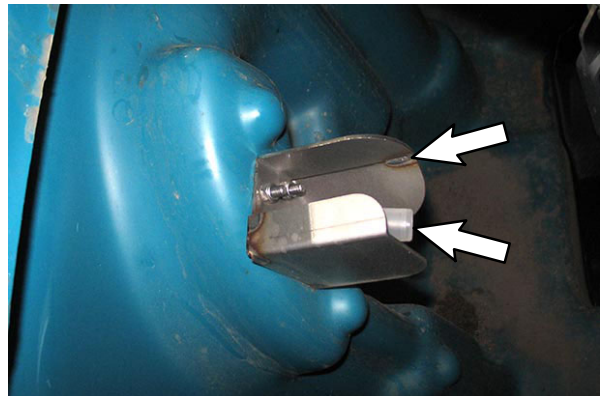

FIG. 9
6. Remove the float sensor from the recovery tank. Discard the float sensor and protector bracket. (Fig. 9)